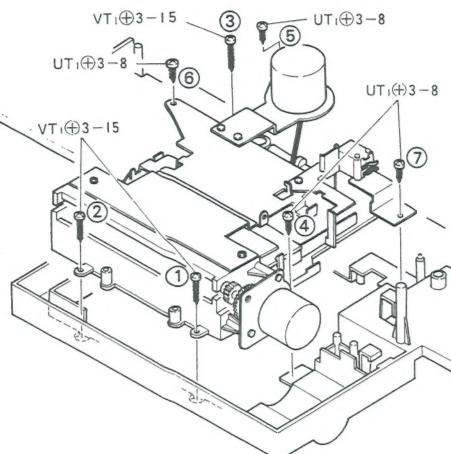

Fig. 9
5) Remove the 7 screws. (See figure 9)
6) When reinserting the mechanism block, replace the 7 screws in their numerical order as shown in figure 9.